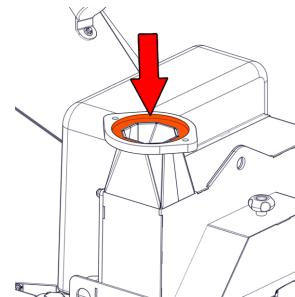

Figure 29 - Discharge flange - tube removed
3. Remove all traces of old grease and dirt from the discharge tube flange and the mounting flange (Figure 29).